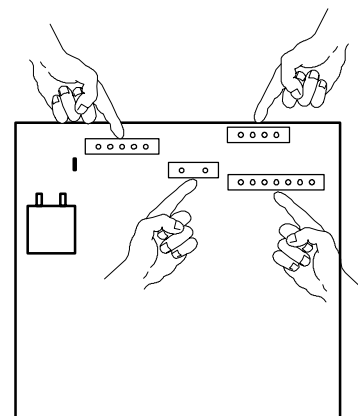

fig. 48
- 3 delicately flex the hooks indicated and disconnect the connectors (fig. 48);